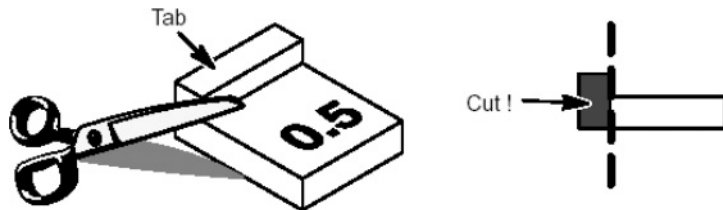

Figure 3-12 Cut the shimtab
- 6.) If the thinnest shim (0.5 mm) is too tight, cut the tab off to reduce the thickness (see Figure 3-12).